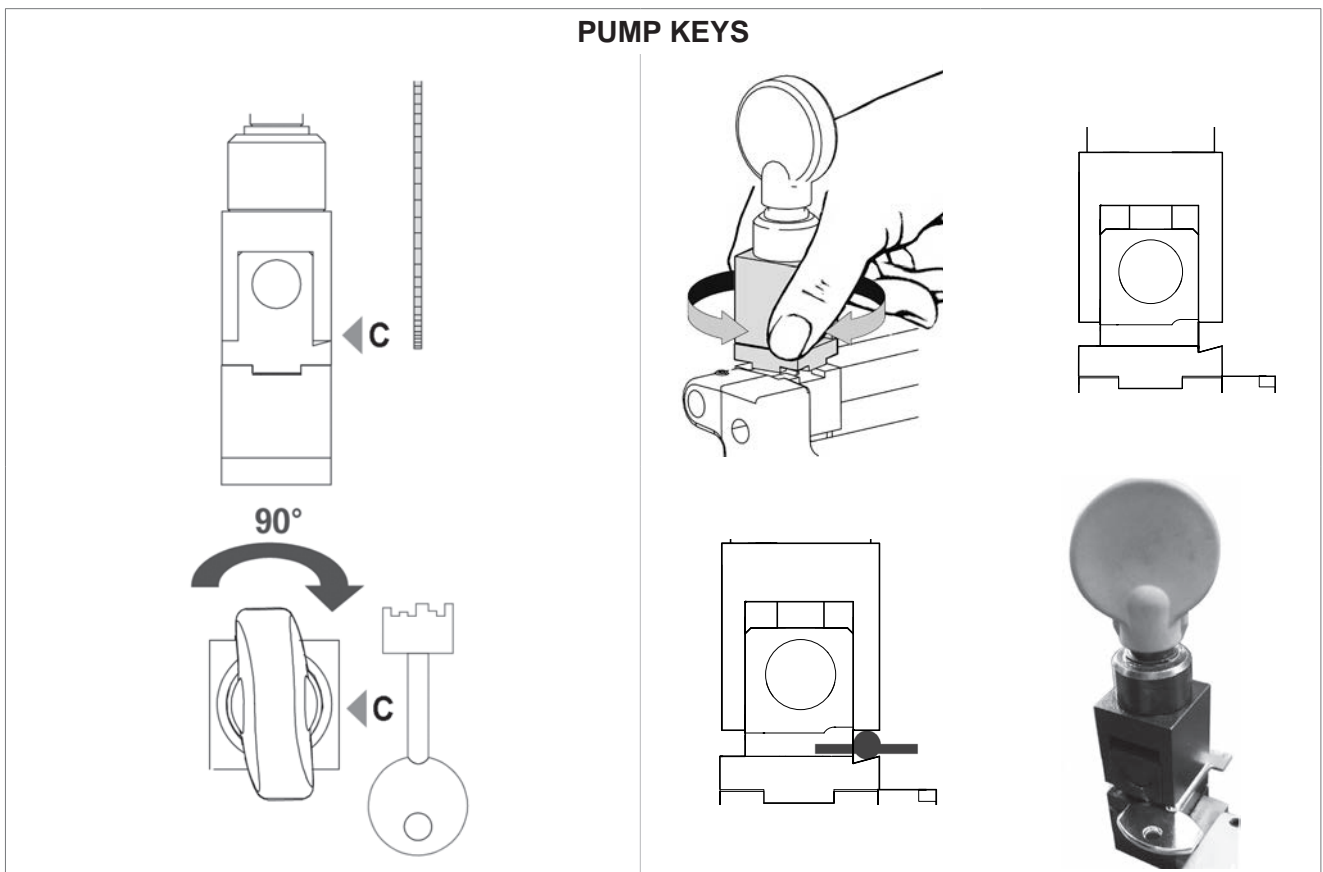
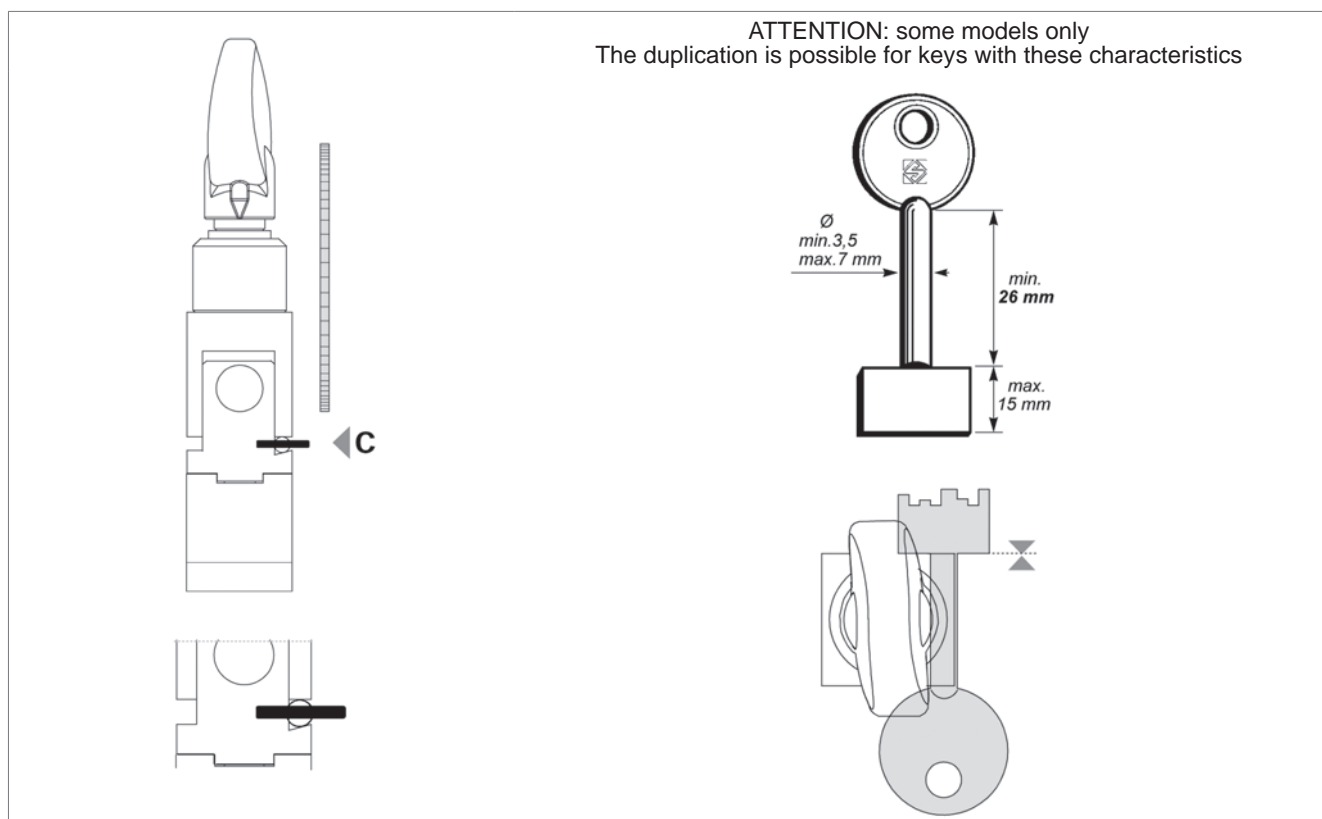

Fig. 27
Fig. 36
- Clamp side for pump keys (position C - turned 90°) (Fig. 27)
**ATTENTION:** some models only (see Fig. 36).
- 1) Prepare the clamps with the bit key jaw turned 90° (Fig. 27 and Fig. 36).
- 5) Start the machine with switch (K) and proceed with cutting.
- 6) Move the carriage with the lever (A) and take the cut key into contact with the tracer point and push the carriage all the way.
- 7) Take the carriage back with the lever (A), go on to the next cutting position and continue from point 6.
- 8) When cutting is finished, turn off the switch (K) and remove the keys.